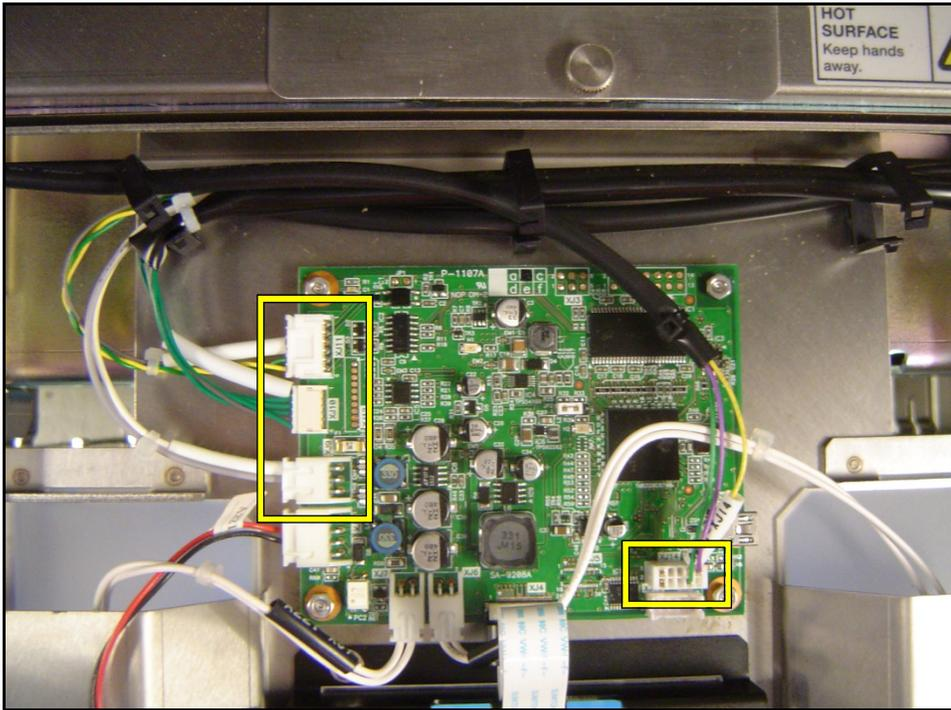

Figure 6. Camera Board P-1107A
9. Disconnect four external cables from the camera board P-1107A: XJ9, XJ10, XJ11, and XJ14. See Figure 6.